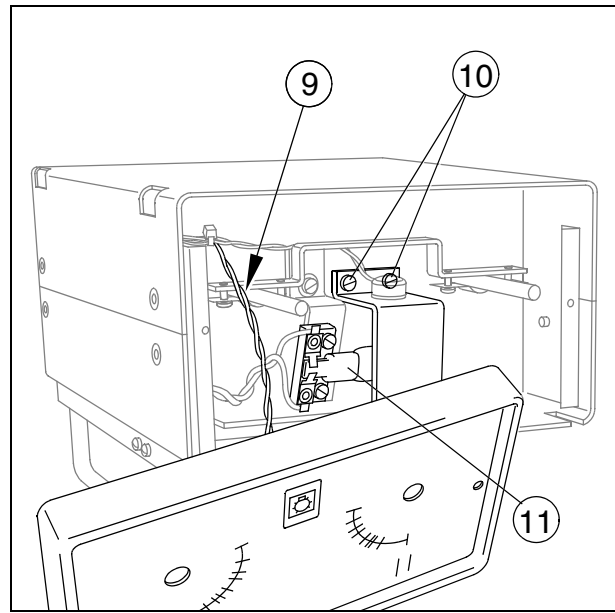

Fig. 7
**Caution :** The front panel is connected to the collimator via a cable (9/ Fig. 7).
**Caution:** The front panel is connected to the collimator via a cable (9/Fig.7).
- Remove both screws (10/Fig.7) and take off the metal bracket for the temperature switch).
- Take out the defective lamp (11/Fig. 7) and replace it with a new lamp.